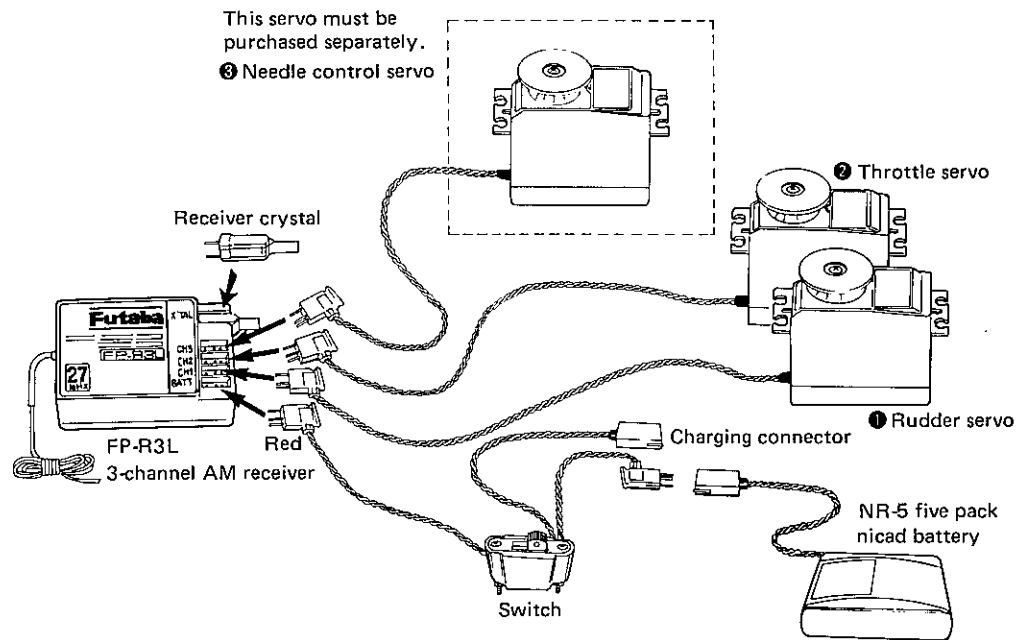

Fig. 14
- Connect the servos and switch firmly as shown in Fig. 14. Then extend the transmitter and receiver antennas to their full length.